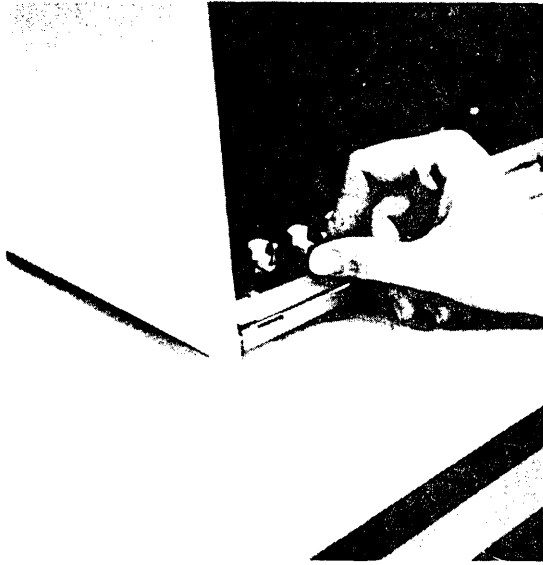

FIGURE 14
3. Pull out the metal lever extending from the plastic cap at the bottom of the card slot. (See Figure 14.)